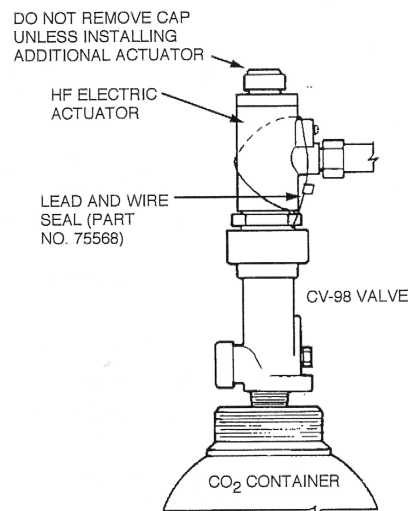

FIGURE 11
3. Thread the HF electric actuator onto top threads of CV-98 CO₂ valve. (Do not exceed 10 ft-lb (13.6 N-m) of torque.) See Figure 11.